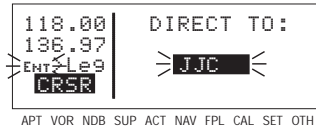

Figure 3-103
2. Press **[→]**. The Direct To page is displayed and it contains the desired waypoint identifier (figure 3-103).